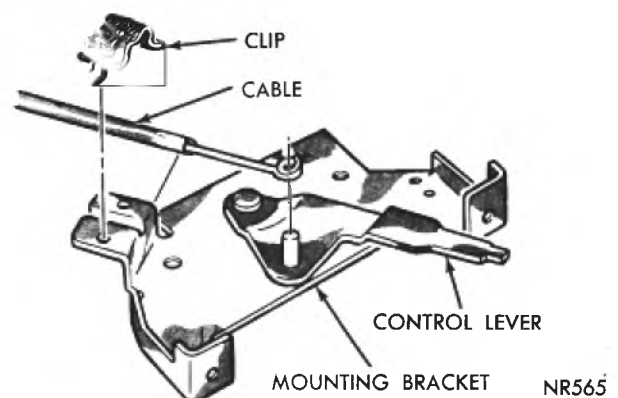

Fig. 2—Heater Control Cable Adjustment (Typical)
- (1) Disconnect battery ground cable.
- (2) Remove ash receiver and housing (Chrysler only).
- (3) Remove vacuum control switch, temperature control bracket and lower assembly through ash receiver housing opening.
- (4) Remove glove box to provide access to the heater temperature door.
- (5) Disconnect temperature control cable at heater.
- (6) At heater control assembly, position cable housing to edge of cable bracket (Fig. 2) and install clip.
- (7) Install temperature control bracket and secure vacuum control switch in place on temperature control bracket.
- (8) Place temperature control arm in extreme left